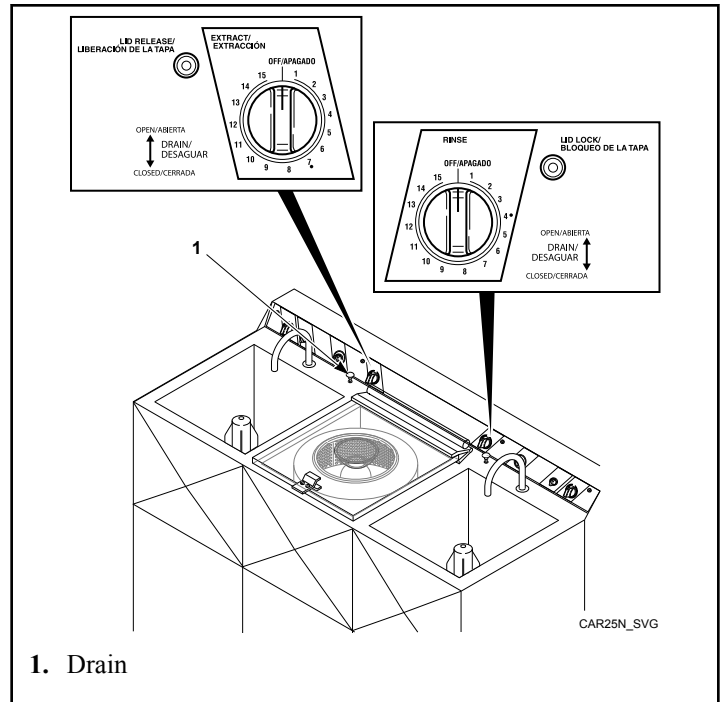

Figure 15
10. Set extract timer and rinse timer to desired cycle times. Refer to *Figure 15*.
11. When cycle is complete, wait until basket stops, then press LID RELEASE button to open lid. Refer to *Figure 15*.